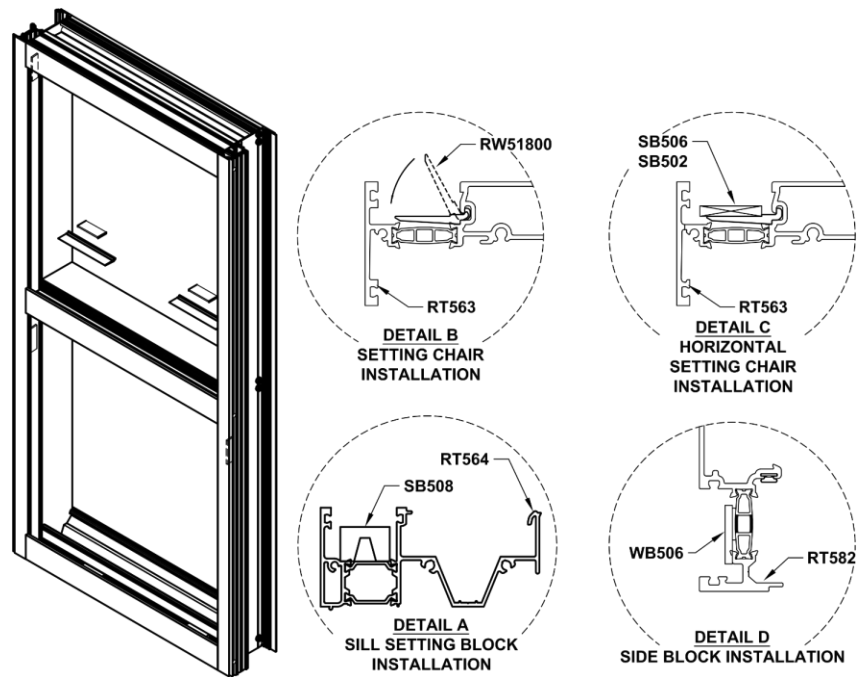

Figure 38: Setting Block Installation
- 14.2 *Figure 38* shows Setting Block installation at Sill.
- 14.4 *Figure 38* shows Setting Chair installation at Horizontal.
- 14.6 *Figure 38* shows Setting Block installation at Sill and Horizontal.